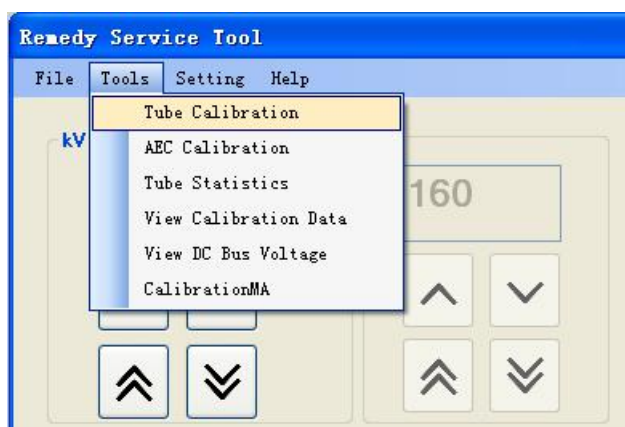
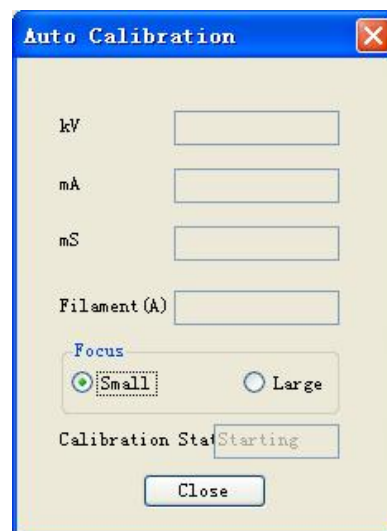

Figure 3-13
Figure 3-14
- Select "Small" under "Focus", as in Figure 3-13 and Figure 3-14.